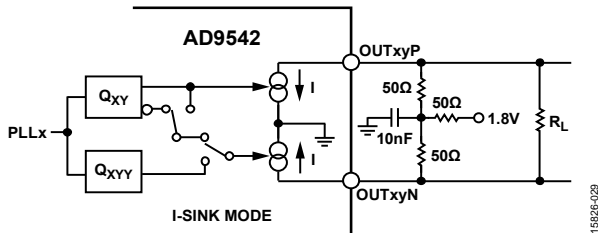
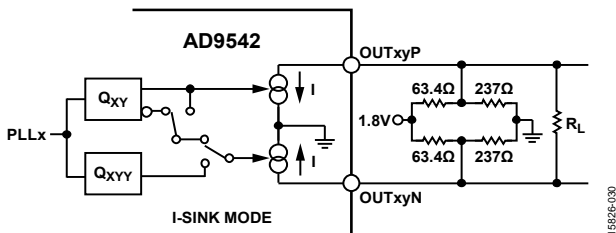

Figure 34. LVDS-Compatible Output, 1.24 V Common-Mode, T Network ($I = 7.5$ mA; $I = 15$ mA With Extra 100 Ω Termination, R_L)
Figure 35. LVDS-Compatible Output, 1.2 V Common-Mode, Thevenin Bias Network ($I = 7.5$ mA; 15 mA With Extra 100 Ω Termination, R_L)
- The 15 mA mode produces a voltage swing and is compatible with LVPECL. If LVPECL dc signal levels are required, the designer must ac couple and rebias the AD9542 output. The 15 mA mode can also be used with the termination scheme shown in Figure 34 and Figure 35 to produce an LVDS signal with the correct LVDS dc bias.